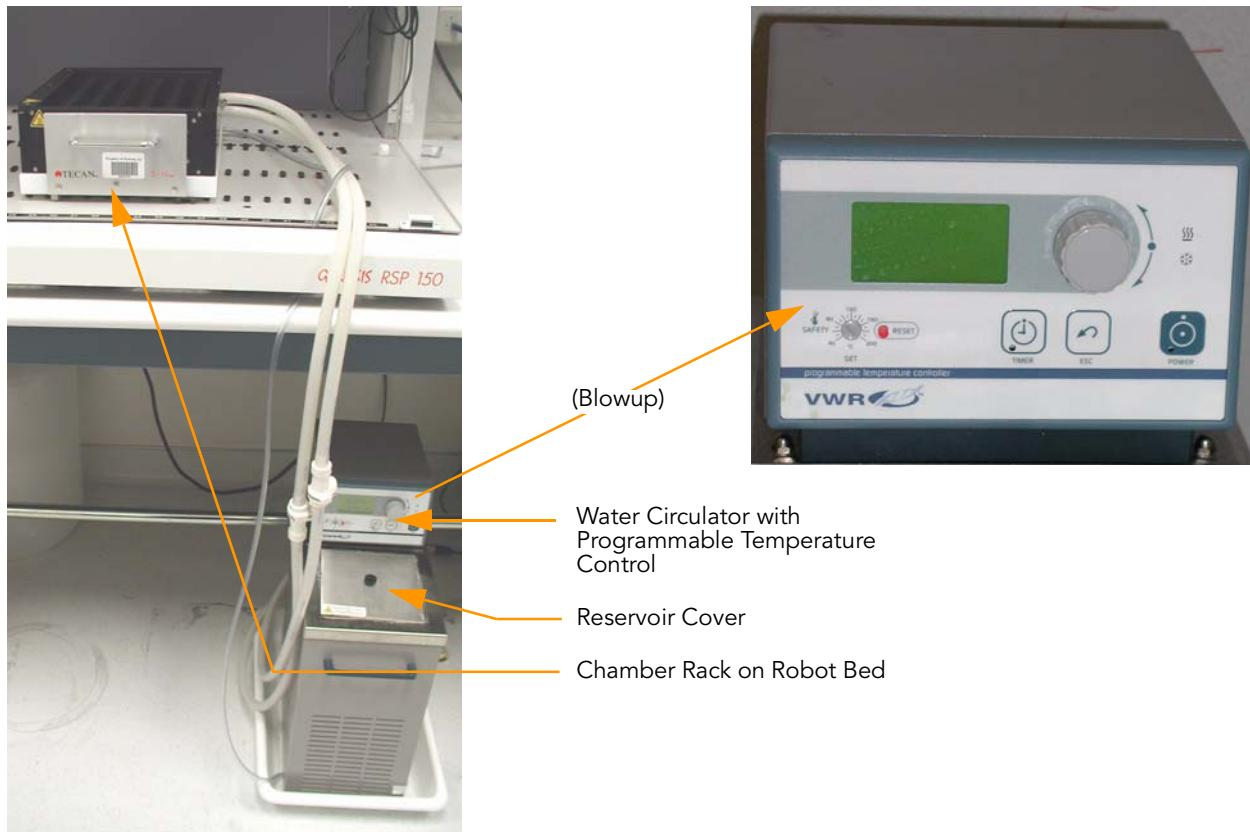

Figure 69 Water Circulator Connected to Chamber Rack
2. Turn on the water circulator and set it to a temperature that brings the Chamber Rack to 44°C at equilibrium (Figure 69).